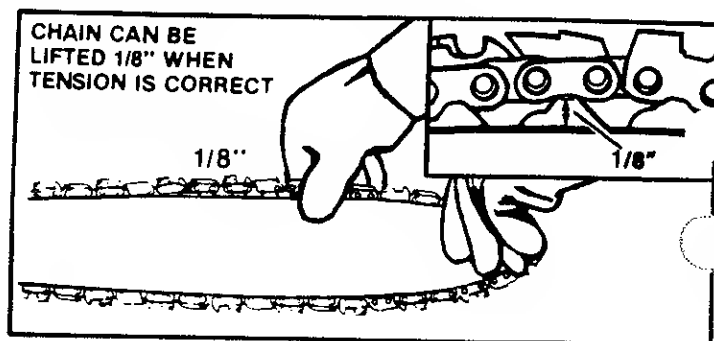

Figure 12
2. Check the tension by lifting the chain from the Guide Bar at the center of the bar. Figure 12.
6. Recheck chain tension. Figure 12.